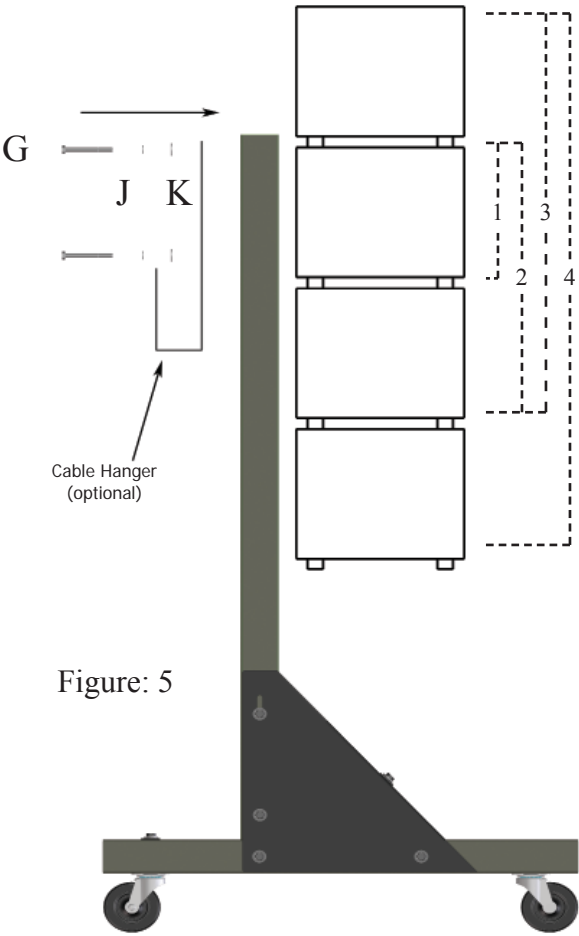

Figure: 5
7.) Standard Mounting - Mount system to the stand using the hardware shown in Figure: 5. Optional cable hanger should also be mounted if desired. Stand will support systems of up to 60 zones.